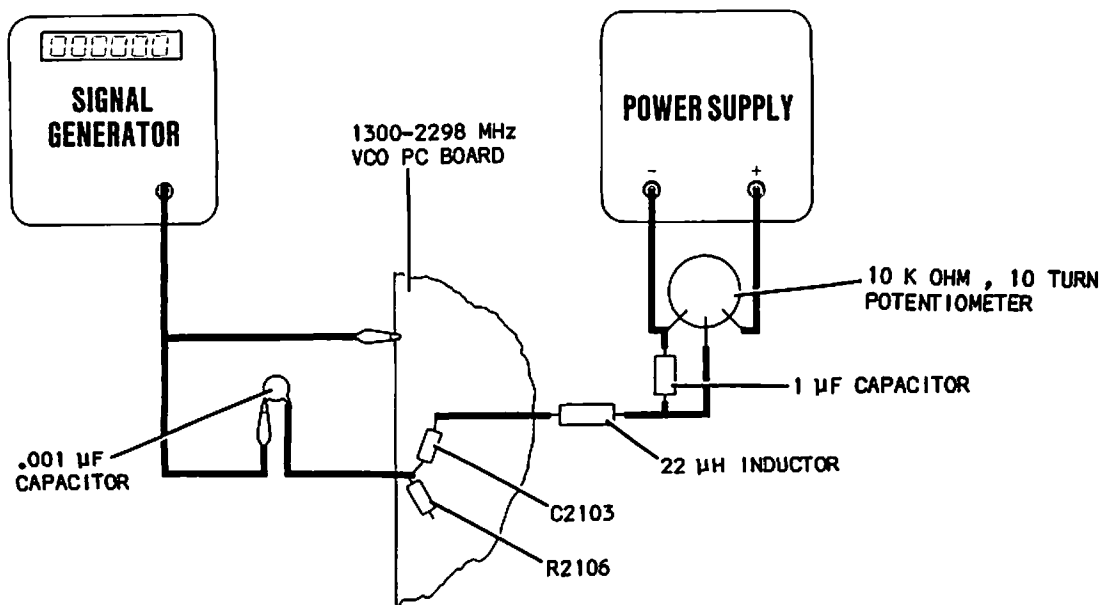

Figure 7-4 Dual VCO Test Connections
C. PREPARATION (Refer to Figure 7-4, Dual VCO Assembly Drawing in Section 6 and Dual VCO Module Drawing in Section 9)
5. Connect 10 K $\Omega$  potentiometer, 1.0  $\mu$ F capacitor and 22  $\mu$ H inductor to J2101 as shown in Figure 7-4.
7. Connect alligator clips to .001  $\mu$ F capacitor and to VCO PC Board ground as shown in Figure 7-4.
8. Solder .001  $\mu$ F capacitor to junction of R2106 and C2103 on first VCO PC Board as shown in Figure 7-4.